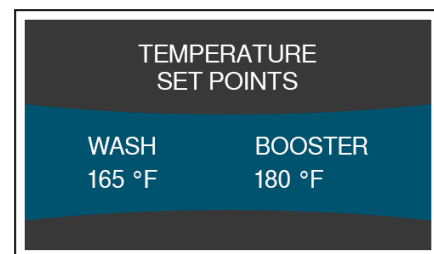

Fig. 45 - Temp Set Points Screen
8. Displays TEMPERATURE SET POINTS in temperature set point mode (see Fig. 45).